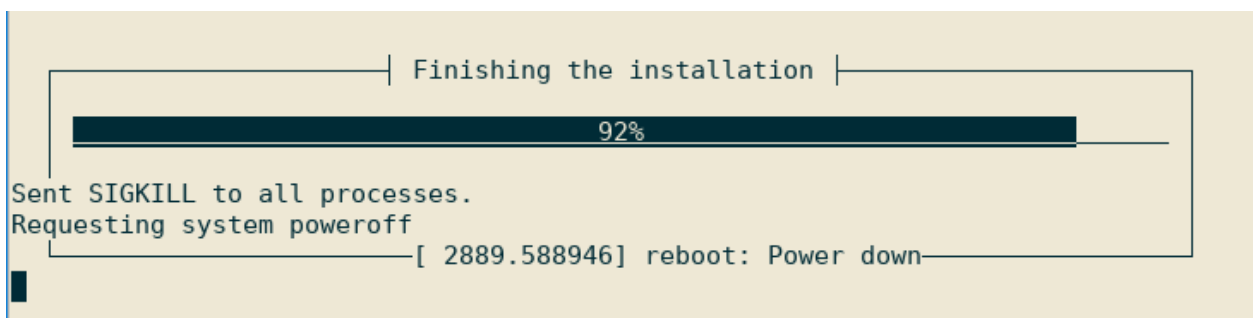

Figure 7.9 Finishing Screen
14. The System shuts down, displaying the screen as shown in Figure 7.9.